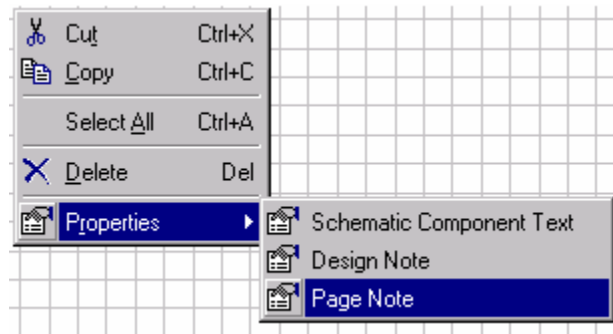

Fig.4.25
2. When an object is bulleted, its properties may be accessed in the following way: Right click on the component. A menu pops up as shown in Fig 4.25.